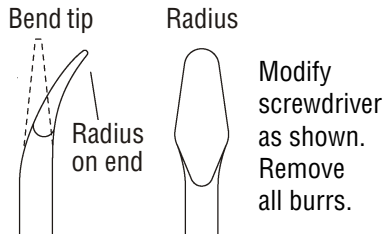
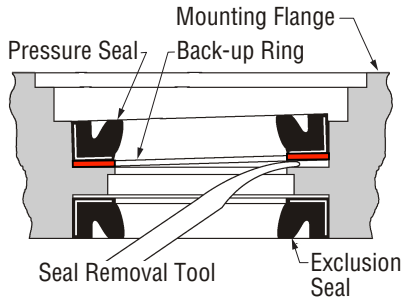

Figure 5-24, Seal Removal Tool
Figure 5-25, Seal Removal
8. Use a seal removal tool (Figure 5-24 and Figure 5-25) to remove the exclusion and pressure seals.